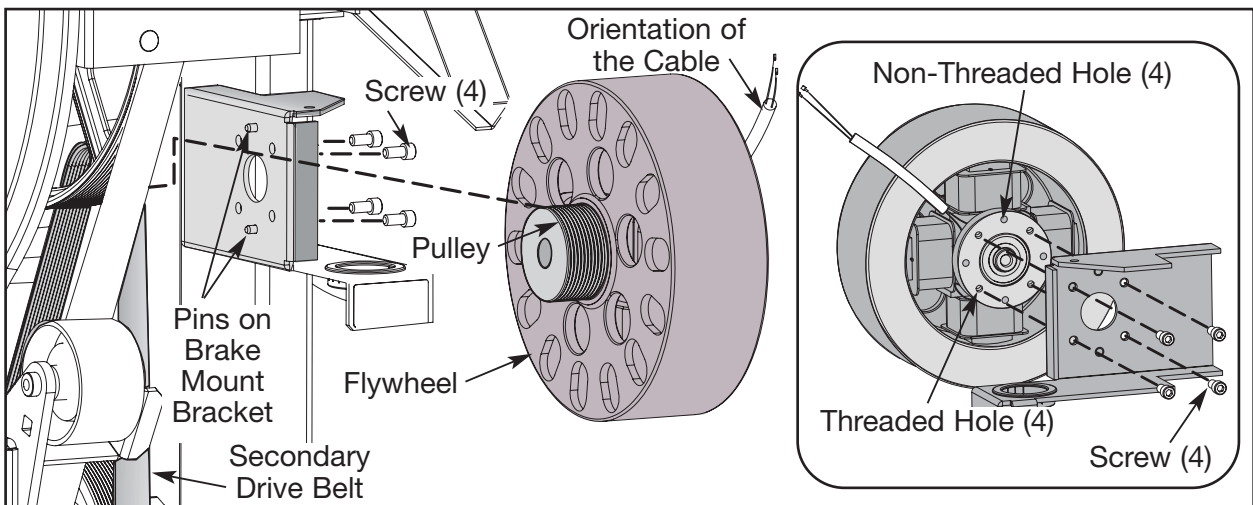

Figure 16
- A.** Wear work gloves whenever handling the eddy current brake. The pulley is sharp. See Figure 16.
- C. Using a 3/16" hex key, first remove the two bottom screws securing the eddy current brake in place. See Figure 16.
- A. Locate the holes on the eddy current brake. Notice that there are four threaded holes and four non-threaded holes. See Figure 16.
- B. Locate the two pins on the brake mount bracket. See Figure 16.
- C. Orient the brake with the cable away from the unit. See Figure 16.
- G. Using a 3/16" hex key, first tighten the two top screws securing the eddy current brake. See Figure 16.